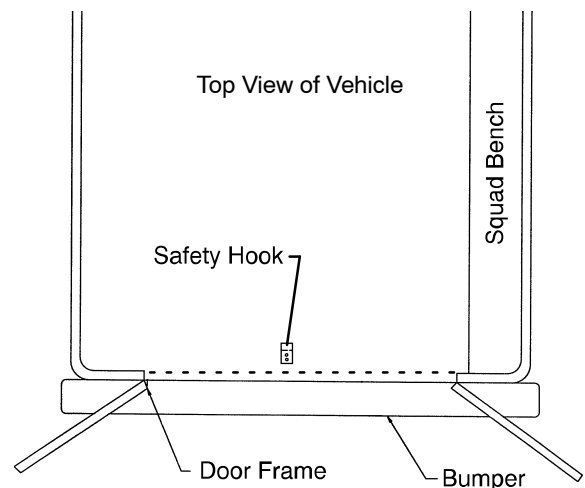

Figure 12 – Safety Hook Placement
12. Mark the position of the safety hook on the patient compartment floor. The safety hook should be installed as close as possible to the rear of the vehicle while allowing the vehicle doors to close (Figure 12). Be sure the bumper and bumper step don't interfere with the operation of the cot.